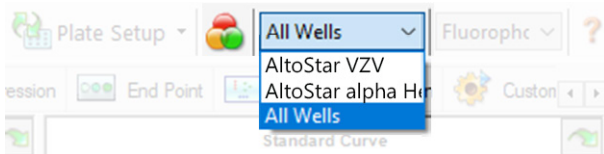

Figure 4: Well Group button and Well Group drop-down menu
In the Data Analysis window ensure to select the **Well Group** of the AltoStar® VZV PCR Kit 1.5. Therefore, click on the **Well Group** drop-down menu right next to the **Well Group** button (see figure 4) of the toolbar. Do not use the “All Wells” **Well Group**. The selection in figure 4 is used as a general example view.
1. In the Data Analysis window ensure to select the **Well Group** of the AltoStar® VZV PCR Kit 1.5. Therefore, click on the **Well Group** drop-down menu right next to the **Well Group** button (see figure 4) of the toolbar.